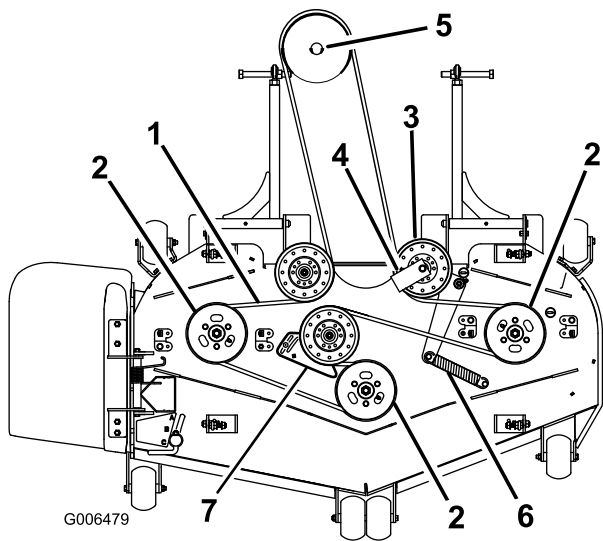
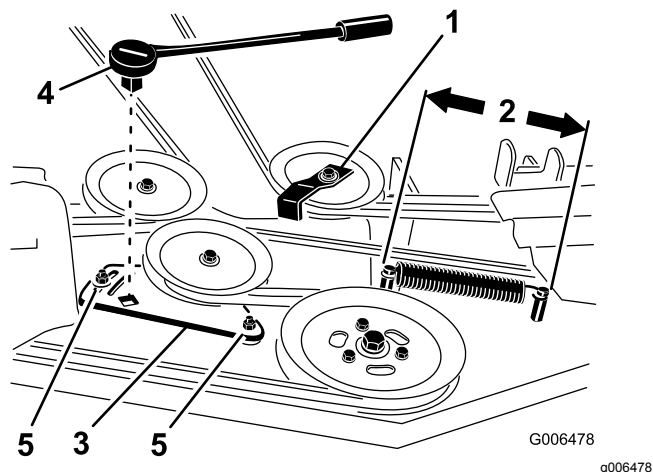

Figure 75
Figure 77
4. For 72-inch mowers, loosen the idler plate bolts holding the idler plate (Figure 77).
6. Remove the belt guide on the spring-loaded idler pulley shown in Figure 75 and Figure 77.
8. Install the new belt around the mower pulleys and the gearbox pulley under the engine (Figure 75).
9. Install the belt guide on the spring-loaded idler at a 45 degree angle as shown in Figure 75 and Figure 77. Torque the bolt to 37 to 45 N·m (27 to 33 ft-lb).
10. Install the idler spring to the 2 posts (Figure 75 and Figure 77).
4. Measure the spring length (Figure 77). If the spring length is between 25.4 to 26 cm (10 to 10-1/4 inches), from post to post, no adjustment is needed.
5. Loosen the bolts holding the idler plate (Figure 77).
6. Insert a ratchet or breaker bar into the square hole in the idler plate to adjust the tension (Figure 77).
7. Rotate the ratchet or breaker bar to move the idler plate until the idler spring is between 25.4 to 26.0 cm (10 to 10-1/4 inches) from post to post as shown in Figure 77.
- While holding the belt tension and spring length, tighten the idler plate bolts that secure the idler plate (Figure 77).